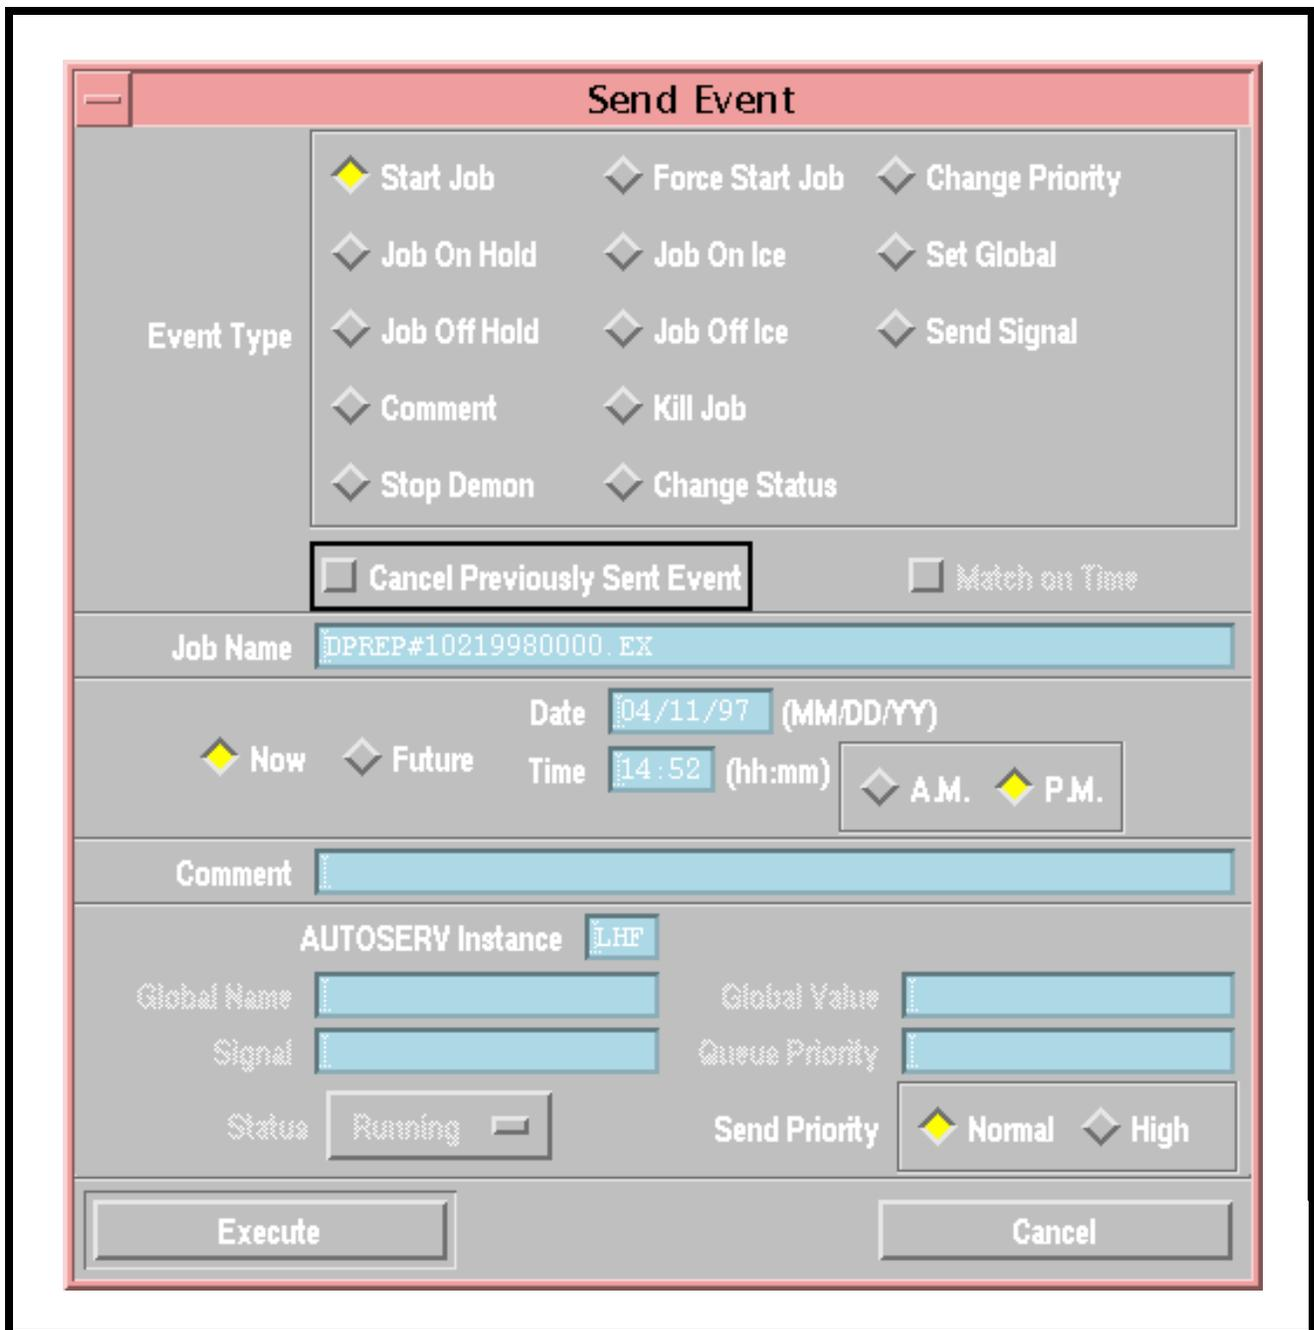

Figure 27. Send Event GUI
- The **Send Event** GUI (Figure 27) is displayed.